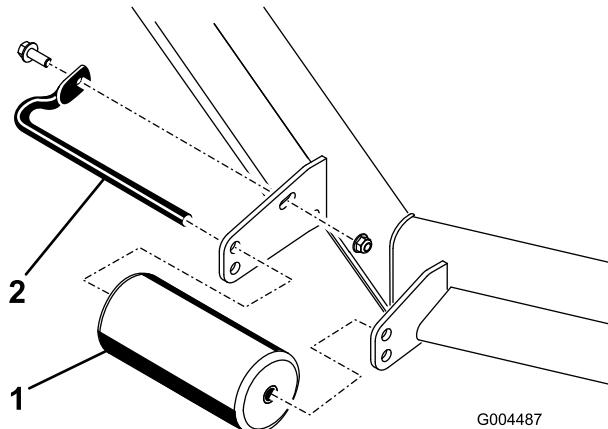
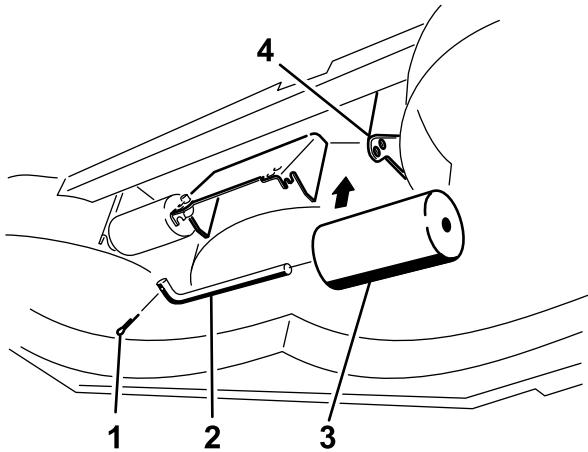

Figure 25
Figure 27
4. Remove the fasteners securing each roller on your mower deck and move the rollers up or down as desired (Figure 25 through Figure 27).